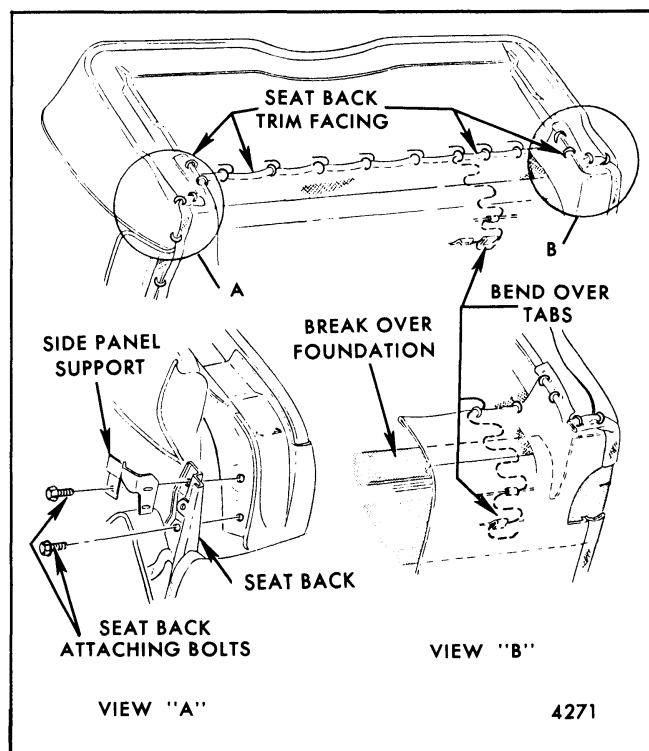

Fig. 9-24-Front Seat Back Attachment - Typical Four Door Attachment - Styles with Full Width Conventional Seat
2. Remove hog rings securing lower edge of seat back trim to seat cushion springs (see Fig. 9-24).
3. Raise lower edge of seat back trim, detach fiber-board breakover foundation and bend out tabs on seat back frame securing seat cushion springs. Disengage springs from tabs (Fig. 9-24).
4. At each end of seat, remove hog rings securing lower edge of seat back trim to seat bottom frame. Raise or turn back seat back trim to expose bolts securing seat back frame to seat cushion frame (Fig. 9-24). Where seat back lighter or courtesy light is present, disconnect wire from seat cushion frame.